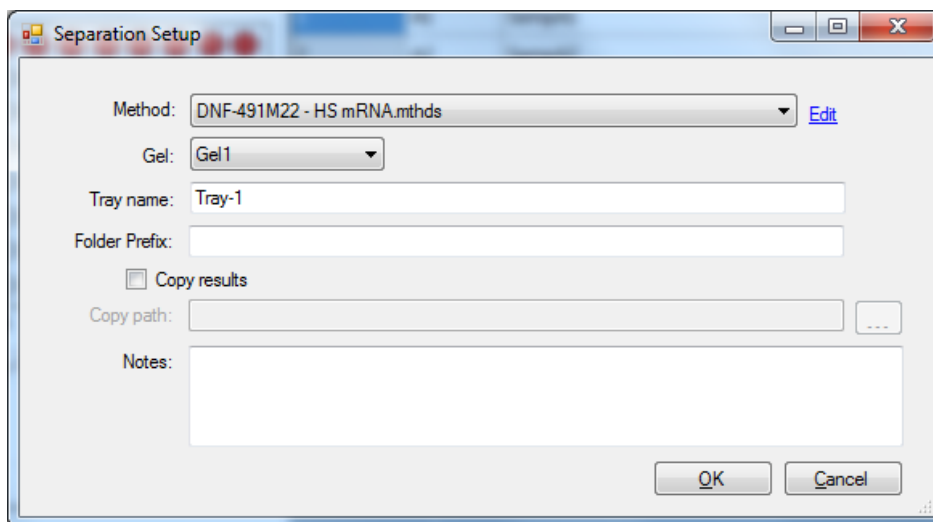

Figure 4. **Separation Setup** form to select experimental Method and enter tray/folder information
3. After sample information for the row or plate has been entered, under the **Run Selected Row** field press **Add to queue**. The **Separation Setup** form will be displayed enabling the user to select the experimental method and enter additional information (Figure 4).
11. On 96-Capillary Systems, or in 12-Capillary Systems if the entire 96-well sample tray is to be run using the same experimental method, under the **Run Entire Tray** field press **Add to queue**. A form similar to Figure 4 will be displayed for entering information and adding the run to the instrument queue for the entire 96-well sample tray.
2. Administrator level operators can **Edit** certain steps of the experimental method. To open the method editor screen, press the **Edit** link from the **Separation Setup** screen (Figure 4). The method editor screen is displayed, showing the steps of the method (Figure 6).